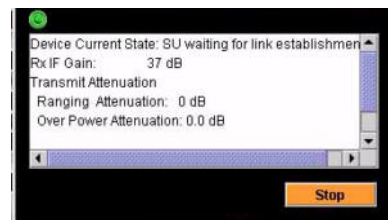

Figure 5-13 Device State Window
- b. When the PacketWave 200 has reset, the window shown in Figure 5-13 is displayed. This window shows the current state of the unit, the radio gain, and transmit attenuation, and is refreshed periodically.